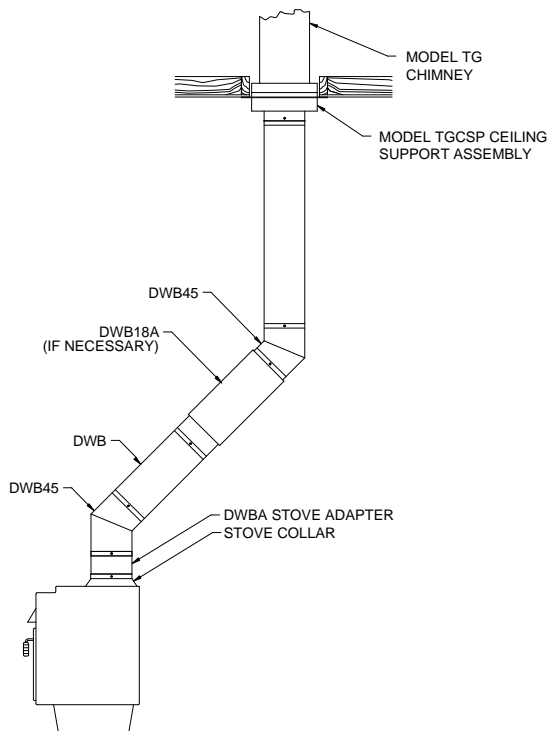

FIG. 3
5. If your installation does not allow for straight up pipe sections, it may be necessary to use elbows (DWB45). The DWB45 is secured to the vertical section with sheet metal screws. The DWB section can now be installed between elbows. The second DWB45 can be attached to a vertical section that extends to the ceiling support and to the DWB section between elbows (See **FIG. 3**). It is recommended that only one DWB section, and if necessary one adjustable (DWB18A), be installed between elbows. The DWB45 can also be installed back to back.